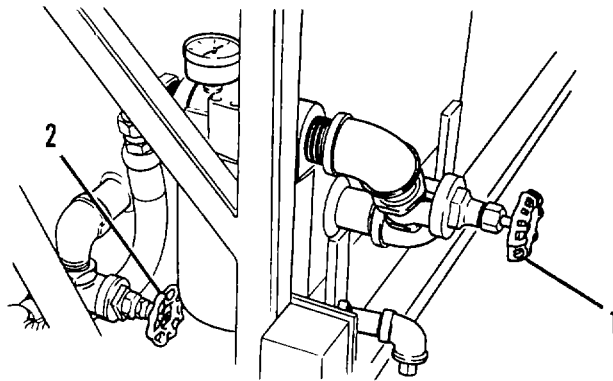

Figure 4-45.4. Gate Valves.
(16) Open suction gate valves (1 and 2, Figure 4-45.4) fully.